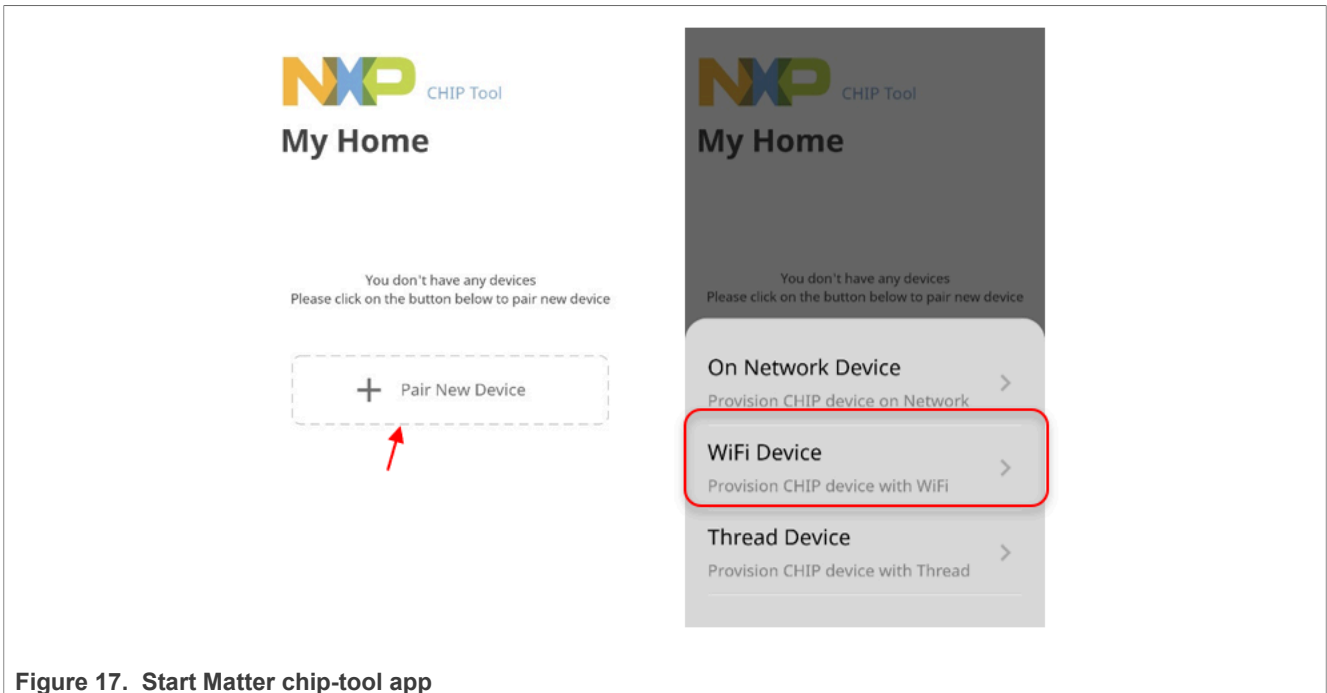

Figure 17. Start Matter chip-tool app
1. Click Pair New Device as shown in Figure 17